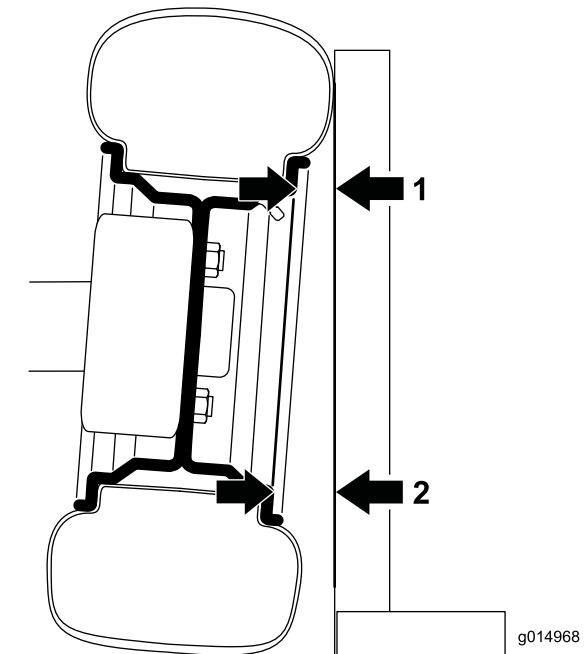

Figure 37
1. To check the camber, place a 90 degree square on the ground with the vertical edge touching the face of the tire (Figure 37).
2. Measure from the same part of the rim on the top and bottom of the tire to the square (Figure 37). The distance of the bottom measurement should be 0.09 inch (2.3 mm) larger than the top measurement. Complete the measurement on both front tires before adjusting.